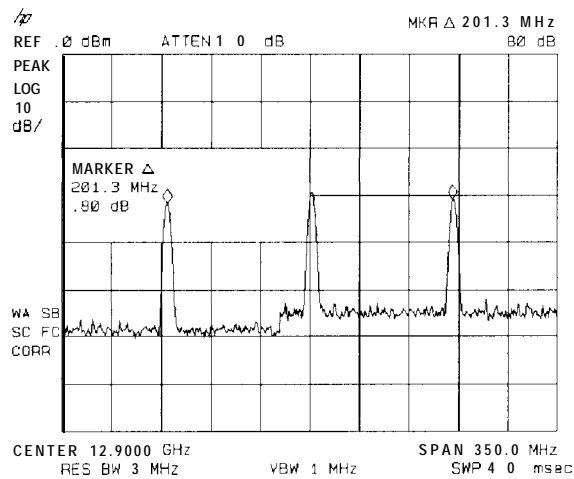

Figure 3-29. Harmonic Locking Off
7. Press MARKER A . Use NEXT PK RIGHT to place a marker on the farthest peak to the right. The marker readout displays the frequency and amplitude difference between the two comb teeth. See Figure 3-29.